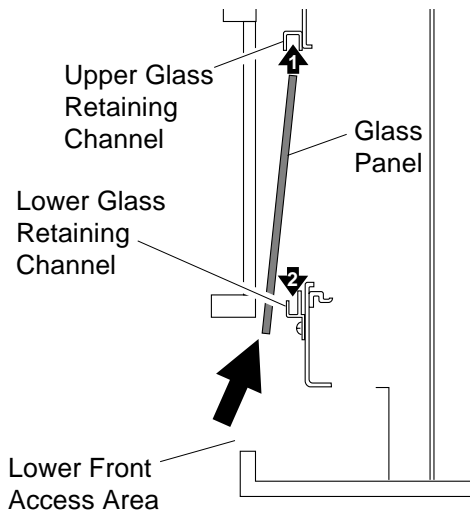

Figure 11 - Inserting Top Edge of Glass Panel into Upper Glass Retaining Channel
6. Insert top edge of glass panel into the upper glass retaining channel (see Figure 11).